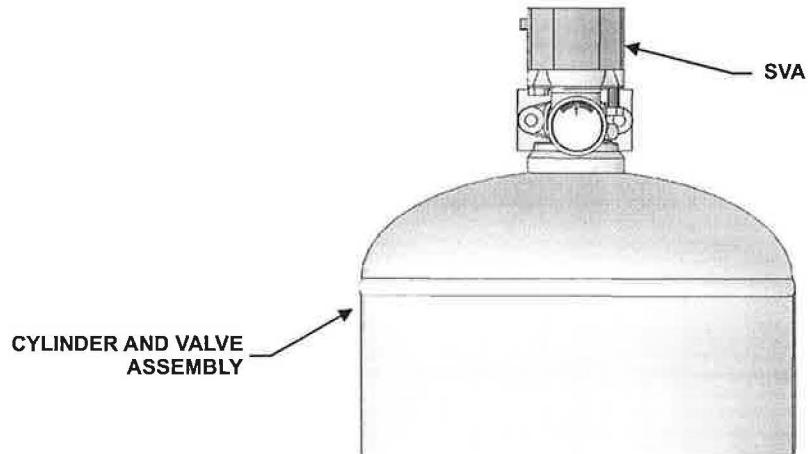

Figure 5-4. System Valve Actuators
7. Remove the System Valve Actuators (SVAs) from all cylinders. See Figure 5-4 for location.